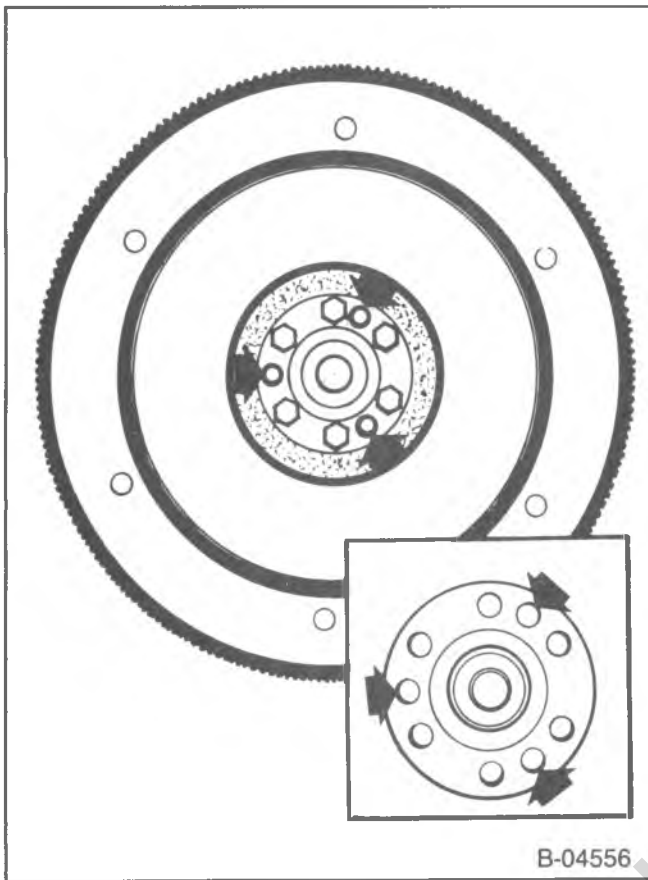

Figure 40—Flywheel Dowel Pin Hole Locations
Remove or Disconnect (Figure 40)
- Mark the flywheel and crankshaft so the dowel pin holes can be aligned in their original positions at assembly (figure 40).
↔ Install or Connect (Figure 40)